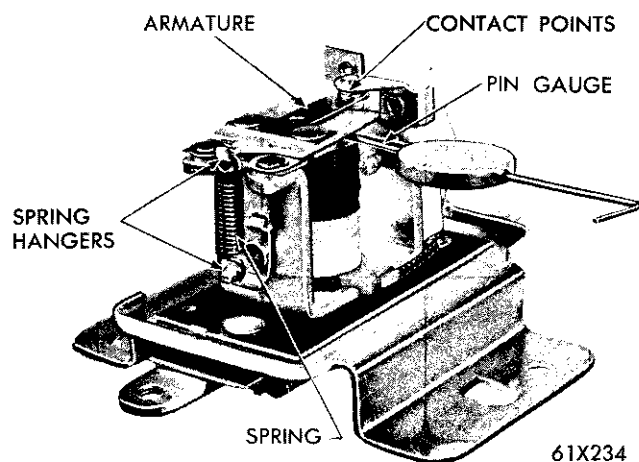

Fig. 30—Checking Air Gap
(1) Remove the regulator from the vehicle. Remove the regulator cover.
(2) Insert a .048 inch wire gauge between the regulator armature and the core, next to the stop pin on the spring hanger side. (See Fig. 30.)
(3) Press down on the armature (not the contact spring) until it contacts the wire gauge. The upper contacts should just "open."